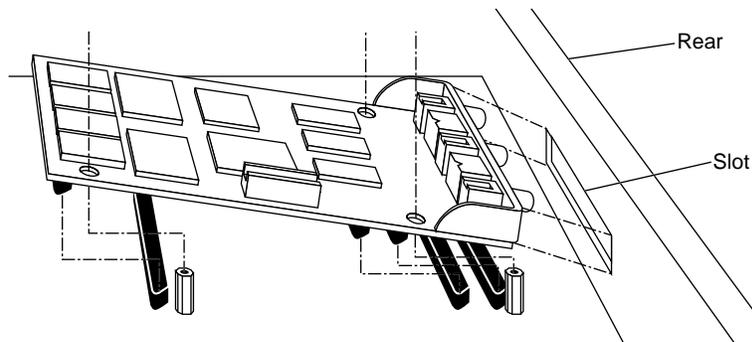

Figure 2-18 Inserting the GIO Board's I/O Connector Through the Backplane
- Lower the GIO option board over the IOPLUS board, inserting the GIO board's I/O connector through the open slot on the rear of the server, as shown in Figure 2-18.